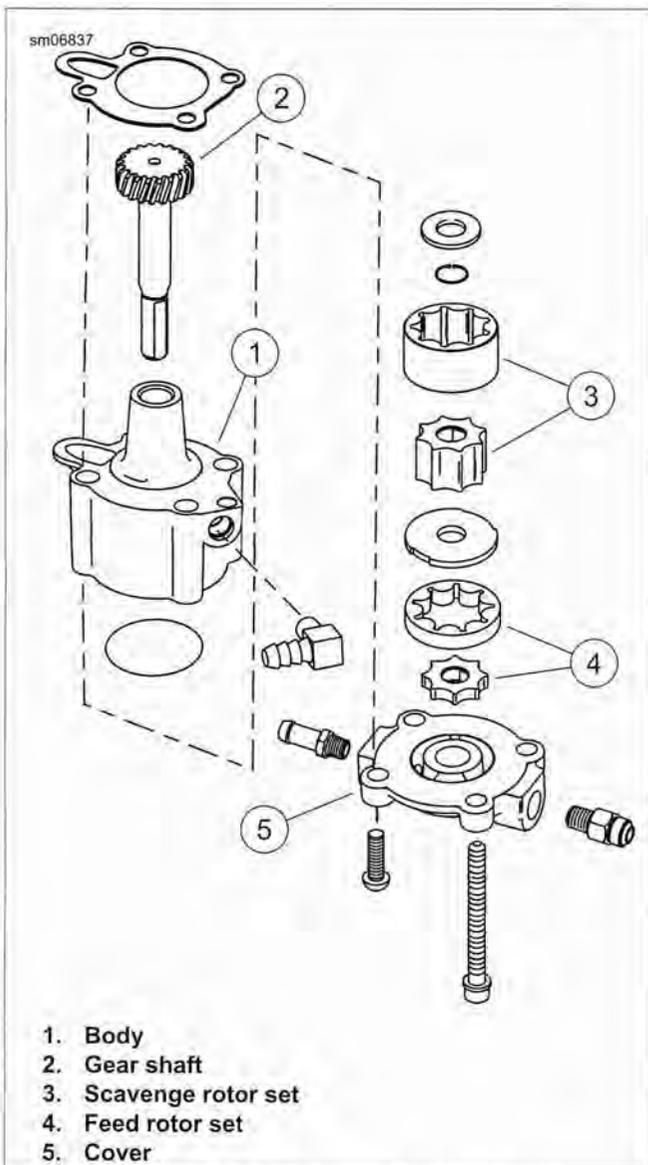

Figure 3-8. Oil Pump: XL Models
**XL Models:** See Figure 3-8. Both rotor sets (3, 4) are driven off a common shaft (2) that is coupled by gears to the crankshaft.